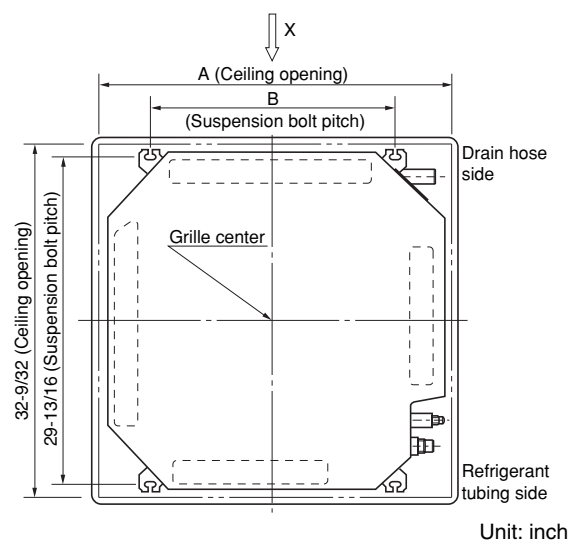

Fig. 3-2
- (2) Follow Fig. 3-2 and Table 3-1 to make the holes in the ceiling.